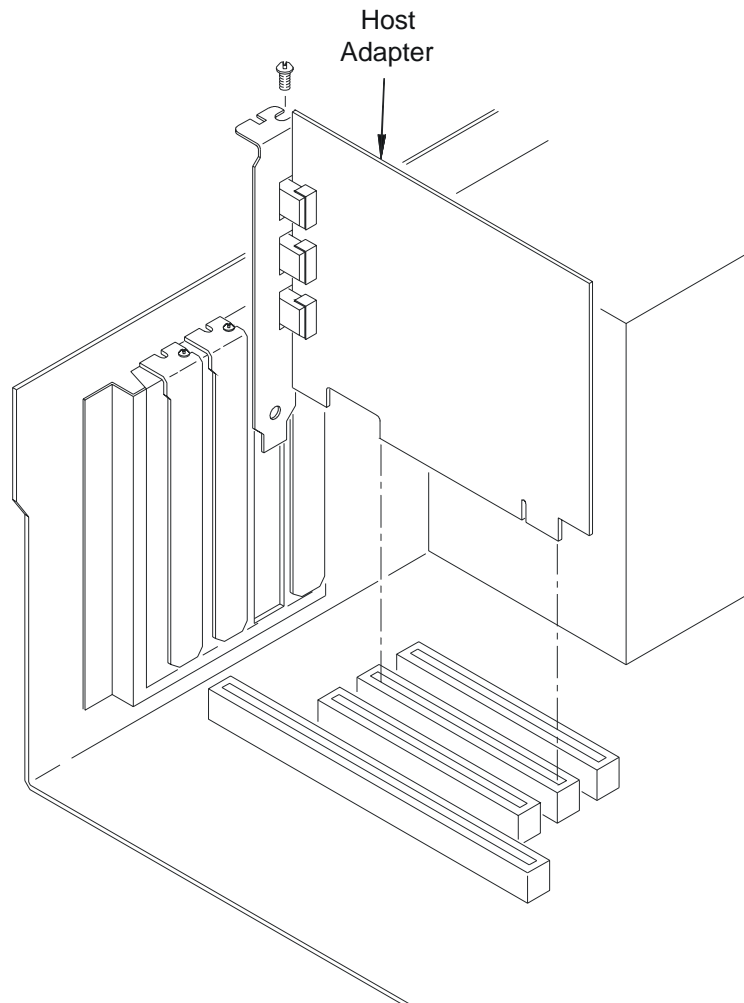

Figure 4-4 Installing the Host Adapter.
4. Align the bus contacts on the bottom of the host adapter with the PCI bus slot. Carefully, but firmly, press the adapter into the slot (Figure 4-4).